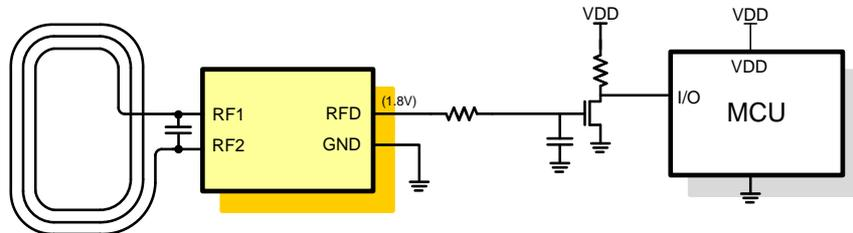

Figure 3 SIC43NT with RF detect pin operating in a 1.8V output mode
- RF field detection when I/O is set in a 1.8V mode (Figure 3)